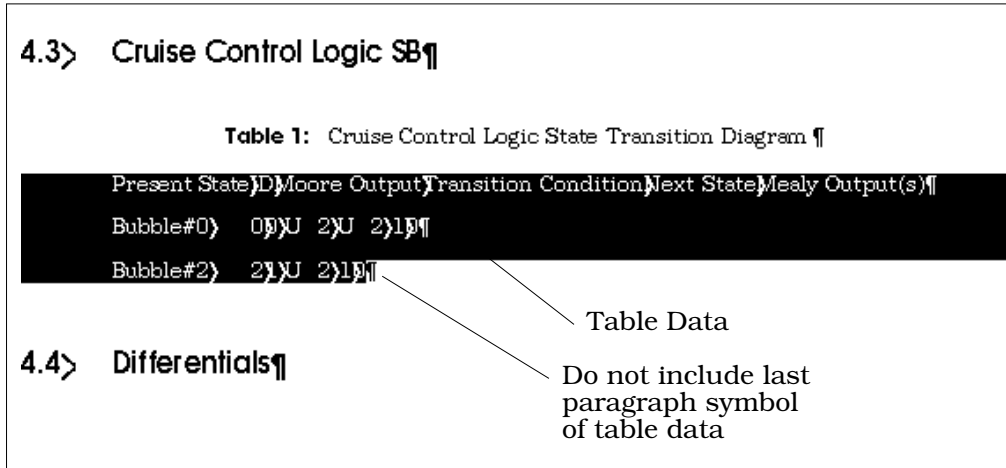

FIGURE C-3 Marking Data for Table Formatting
1. Select all the data you want to include in the table, but do not include the last paragraph symbol in the last row of table data (see Figure C-3 for an example of exactly what information you need to select for reformatting).